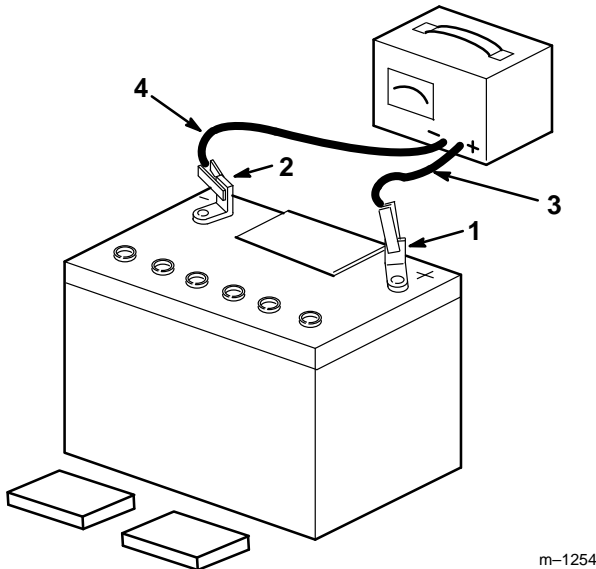

Figure 3
3. Leave the covers off and connect a 3 to 4 amp battery charger to the battery posts (Fig. 3). Charge the battery at a rate of 4 amperes or less for 4 hours (12 volts).
4. When the battery is fully charged, disconnect the charger from the electrical outlet then from the negative and positive battery posts (Fig. 3).